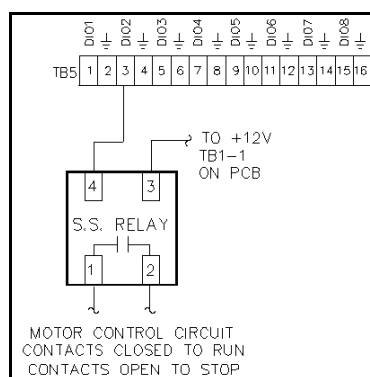

Figure 7-4. Solid-State Motor Control Relay Wiring to Lufkin
- a. *For solid-state relay option* (Figure 7-4):